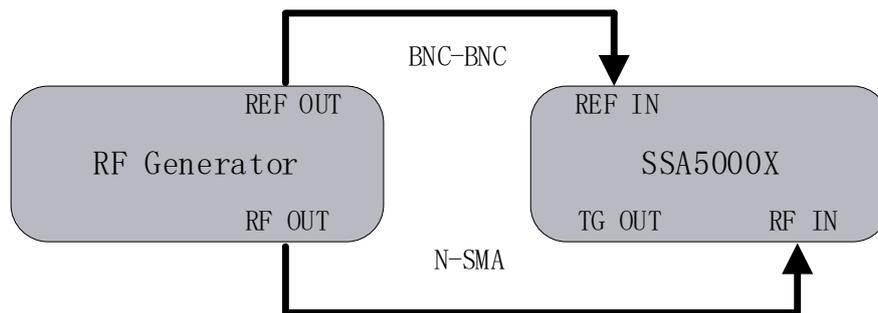

Figure 13 Diagram of Phase Noise Test System
1. Connect the signal generator and spectrum analyzer as Figure 13 shows